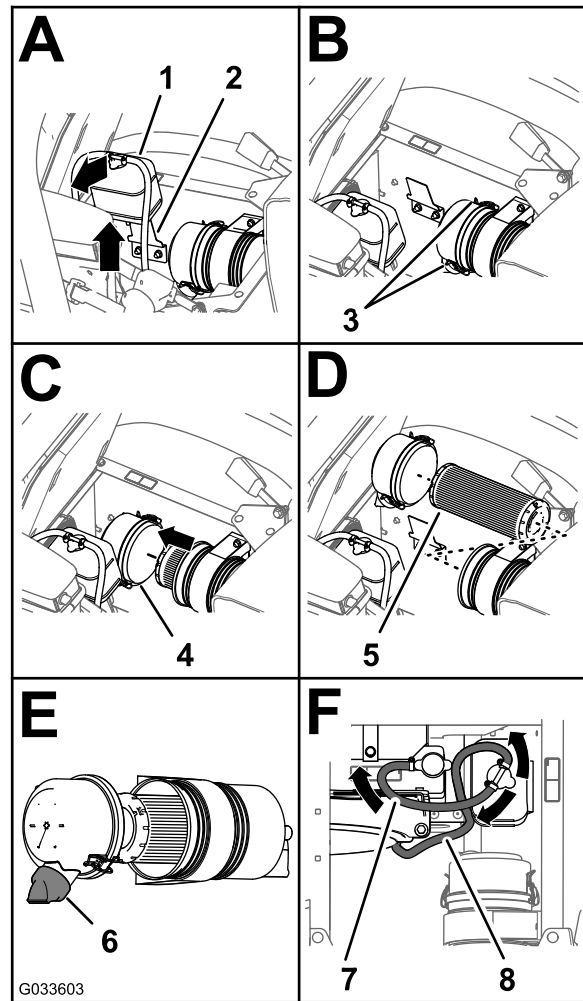

Figure 68
3. Lift the coolant-overflow tank up and off the tank-support bracket (Figure 68).
4. Loosen the 2 latches that secure the dust cap to the air-cleaner body (Figure 68).
6. Clean the inside of the dust cap, air-cleaner body, and dust valve with a damp rag (Figure 67 and Figure 68).
7. Insert the air-filter element into the air-cleaner body (Figure 68).
8. Install the cover onto the air-cleaner body and secure the cover with the 2 latches (Figure 68).
Note: Ensure that the dust valve is aligned between the 5 and 7 o'clock positions when viewed from the end (Figure 68).
9. Align the coolant-overflow tank to the tank-support bracket and seat the tank firmly (Figure 68).